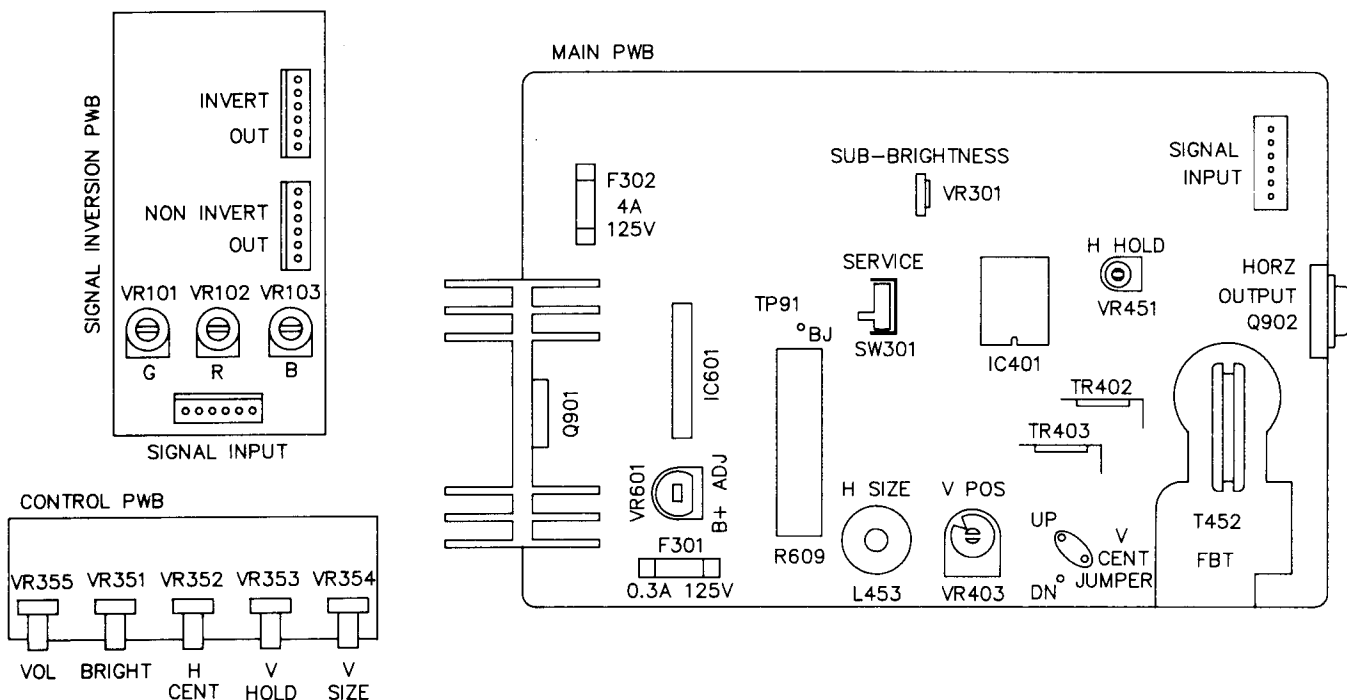
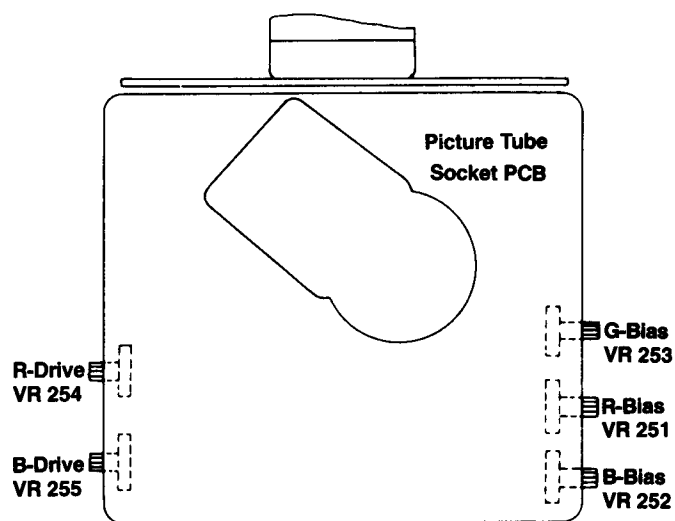

Figure 3 Adjustable Controls and Test Points on Main Chassis PCB, Control PCB, and Signal Inversion PCB
Figure 5 Adjustable Controls on Picture Tube Socket PCB
The BRIGHT control VR351 should be adjusted if the picture image is either too bright or too dark. See Figure 3 for the location of the Brightness control on the Control Printed-Circuit Board (PCB).
color or brightness, and whenever the purity and convergence is adjusted. (See Figure 3 for the location of the Screen and Brightness controls and Figure 5 for the Bias and Drive controls.)
The Horizontal Centering control should be adjusted if the picture is not centered on the screen, as indicated by a black area at either the left or the right edge. Figure 3 shows the location of the H-CENT control VR352 on the Control PCB. Adjust this control until a normal screen image is obtained.
The Vertical Hold control should be adjusted if the picture drifts straight up or down on the screen. Figure 3 shows the
The Vertical Size control should be adjusted if the screen image is either not filling the screen vertically, or if it is overscanning the screen vertically. Figure 3 shows the location of V-SIZE control VR354 on the Control PCB.
The Horizontal Width coil should be adjusted if the screen image is either too wide or narrow. Figure 3 shows the location of HORIZ WIDTH coil L453 on the Main Chassis PCB.
The Focus control should be adjusted if the screen image is not sanely defined. The Focus control is attached to the top of the horizontal-output transformer as shown in Figure 3. Turn this control until you get optimum screen sanyoness.
The Horizontal Hold control should be adjusted if the picture is drifting sideways across the screen. Figure 3 shows the location of H-HOLD control VR451 on the Main Chassis PCB. Adjust this control until the black lines no longer slant downward or upward and you get a normal screen image.
- c. Adjust the Screen control for a dimly-lighted screen. This control is attached to the horizontal-output transformer as shown in Figure 3.
- a. Turn off the green and blue guns of the CRT by rotating the G-BIAS VR253 and B-BIAS VR252 controls to the fully counterclockwise position. (See Figure 5 for the location of the Bias adjustments.)